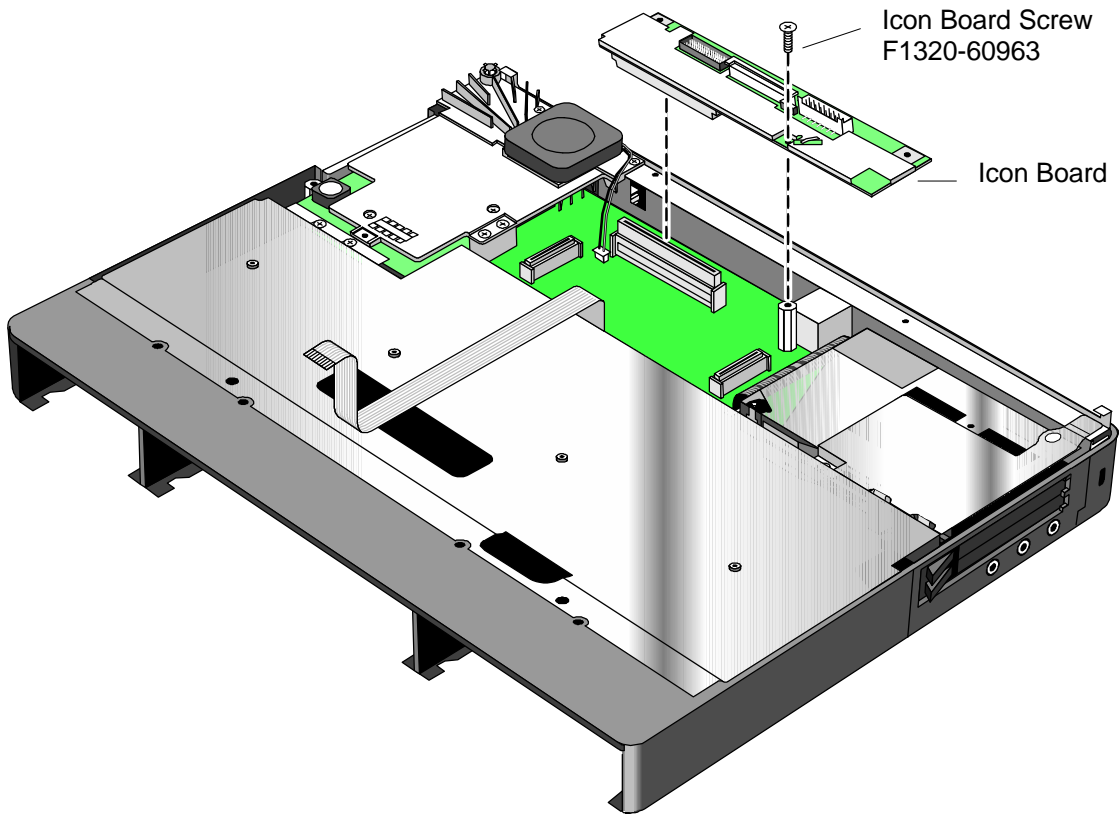

Figure 36 - Icon Board Removal
5. Remove the Icon Board Screw (see Figure 36). Gently rock the Icon Board back and forth to free it from the connector.